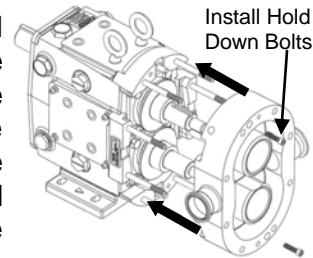

Figure 51: Installing Pump Body
1) Make sure all seal components are installed by following “Seal Assembly” instruction provided on page 26. Ensure all dowels are in place and that all parts including body, rotors and rotor nuts are clean and free of foreign matter. Slowly slide the body over the gear case studs and shafts, ensuring the seals are kept in place and not damaged (Figure 51). Install the two hold down bolts and tighten the body against the gear case to ensure the dowels are engaged. Rotate the shafts to make sure there is no interference with the seals.